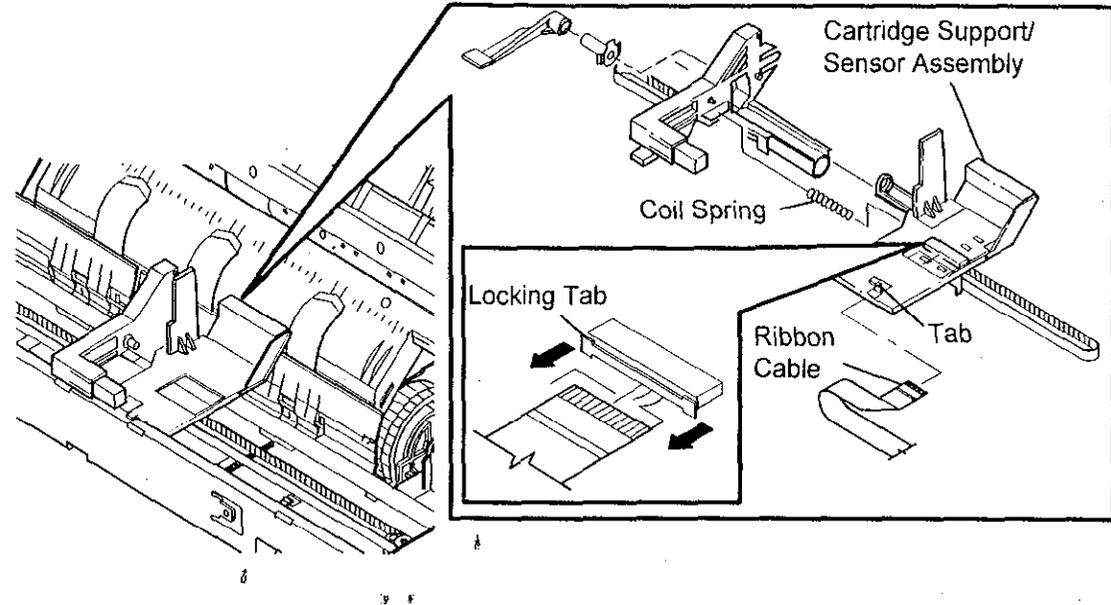

Figure 1 Removing the Carriage Support/Sensor Assembly
1. Engage the tab on the front of the Carriage Support/Sensor Assembly with the carriage frame (Figure 1).